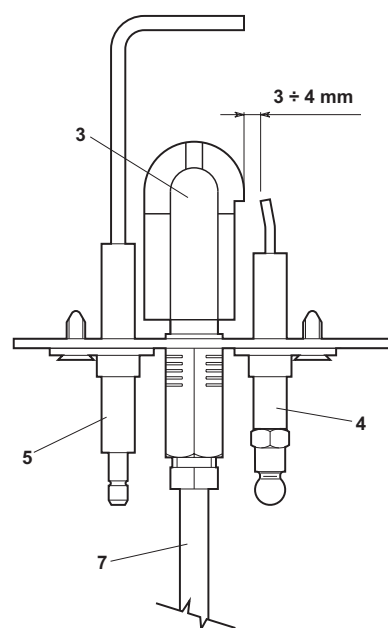

Fig. 14
- The electrodes must be free of scale and properly positioned (see fig. 14).